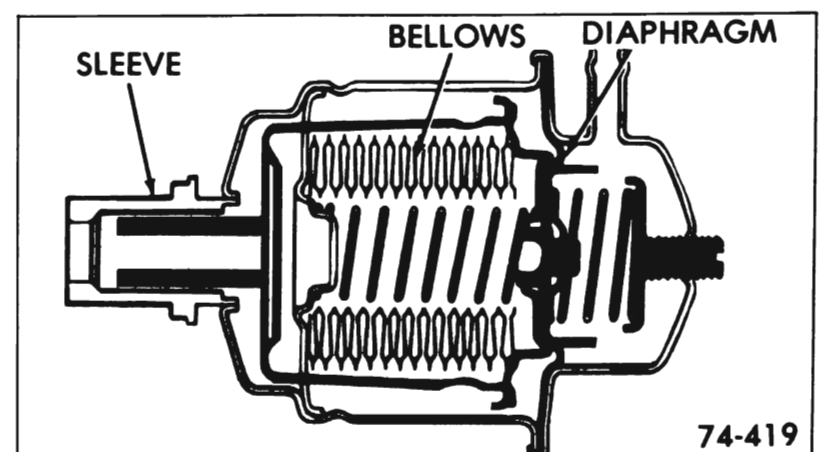

Figure 76-1 - Vacuum Modulator Assembly
The vacuum modulator, see Figure 76-1, has three areas to be checked. If any one of the three (3) areas fail to pass the prescribed checks, the modulator must be replaced.